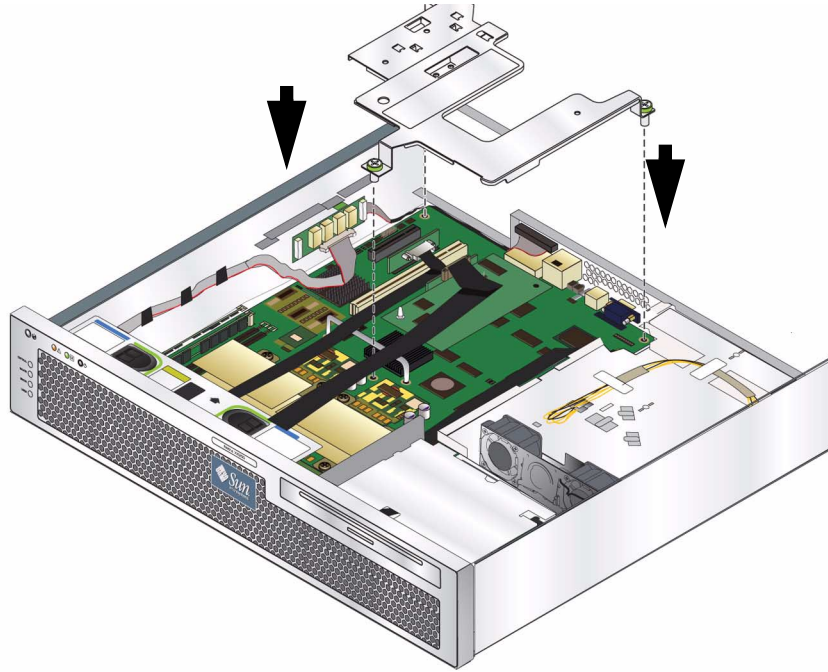

FIGURE 3-83 Reconnecting the PCI-E Cable Cover
2. Reconnect the PCI-E cable cover and tighten the three captive screws that hold it in position (FIGURE 3-83).